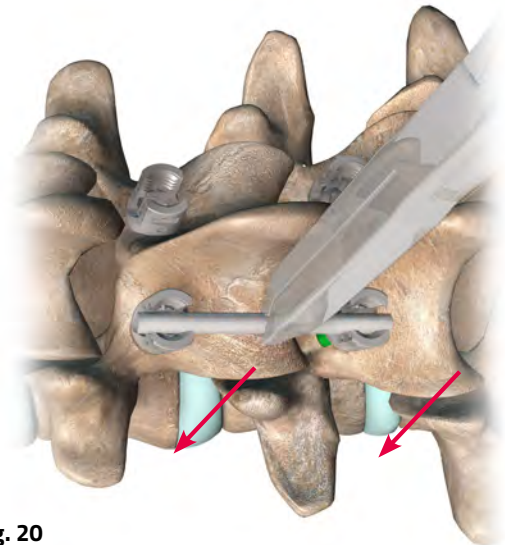

Fig. 20
**NOTE:** Ensure the rod seating area is clear of any bony/tissue interferences before attempting to reduce the rod. **(Fig. 20)**